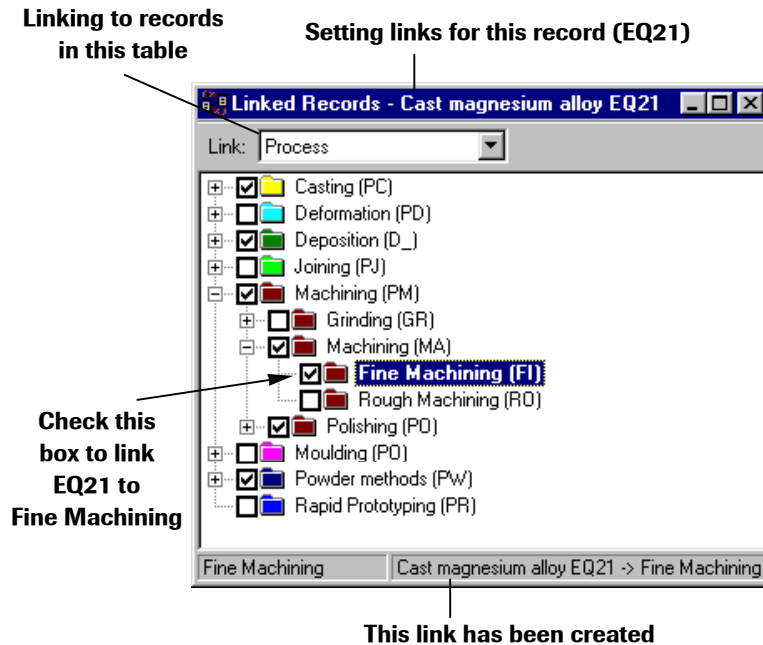

Fig. 10.7 Creating a link between EQ21 and the process 'Fine Machining'.
The *Linked Records* window shown in figure 10.7 will appear. Note that the list box at the top of the window is set to the *Process* table – but this can be changed if you want to generate links between EQ21 and other tables.
**Open the Machining branch of the process links tree as shown in figure 10.7.**